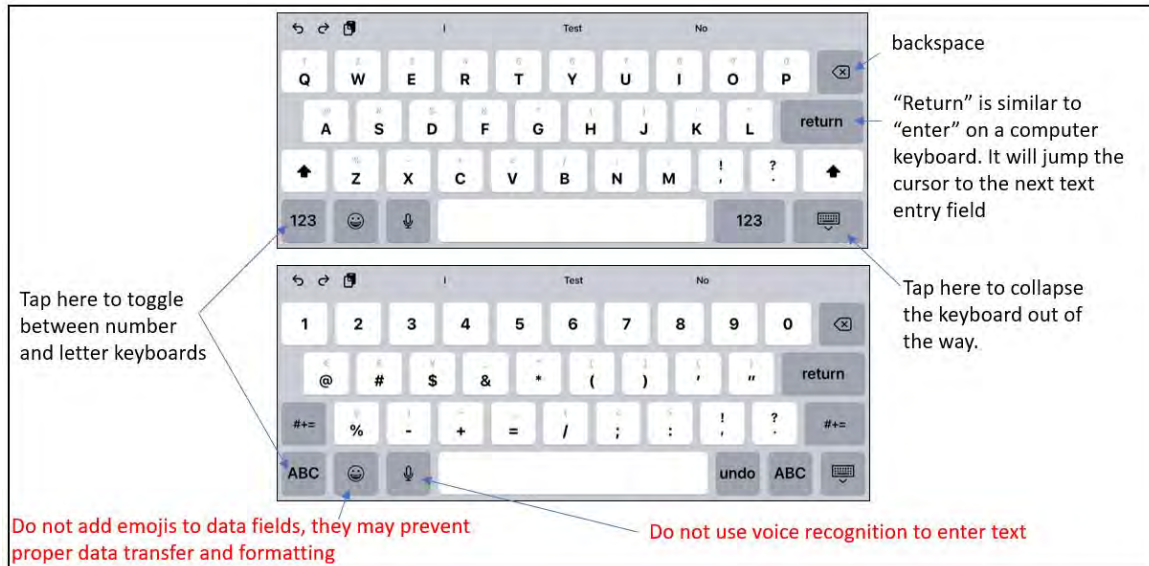

Figure 7-8
- 1. On Screen Keyboard** – Text and number entry fields will open a keyboard when you tap on them. You can toggle between number and letter keys (Figure 7-8). Do not use speech or photo recognition options to enter text, they are too error prone. Also, do not add emojis or other cartoon symbols, they may negatively impact the data import process and data formatting. When you are done entering text you can tap the  symbol in the bottom right corner to collapse the keyboard so it is out of the way.